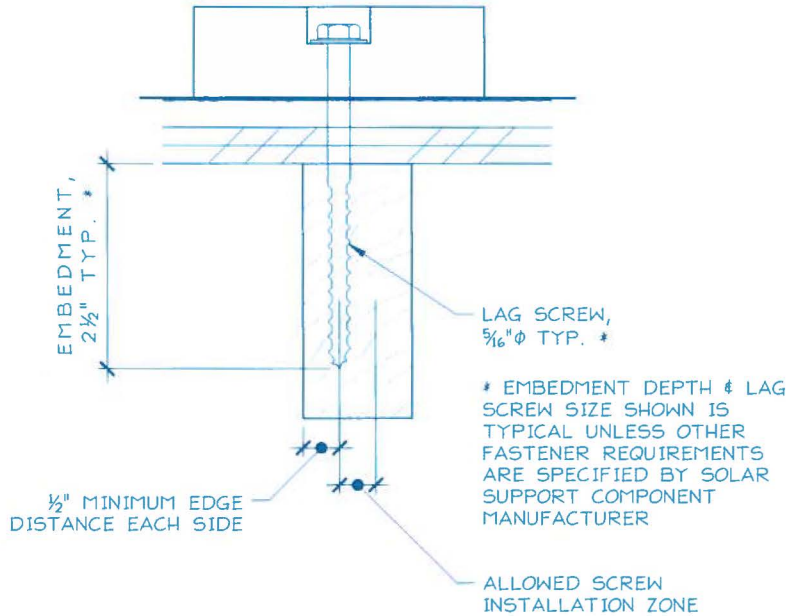

Figure 3. Typical Anchor with Lag Screw Attachment.
- 1) Anchor fastener data (see Figure 3)